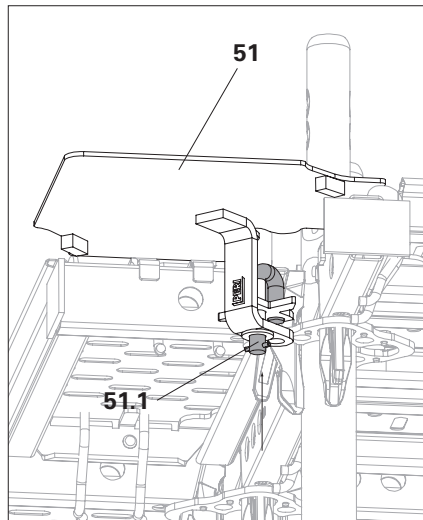

Fig. A7.06a
4. Push the bolts of the Inside Corner Plate EDP (**51.1**) up. (Fig. A7.06a)